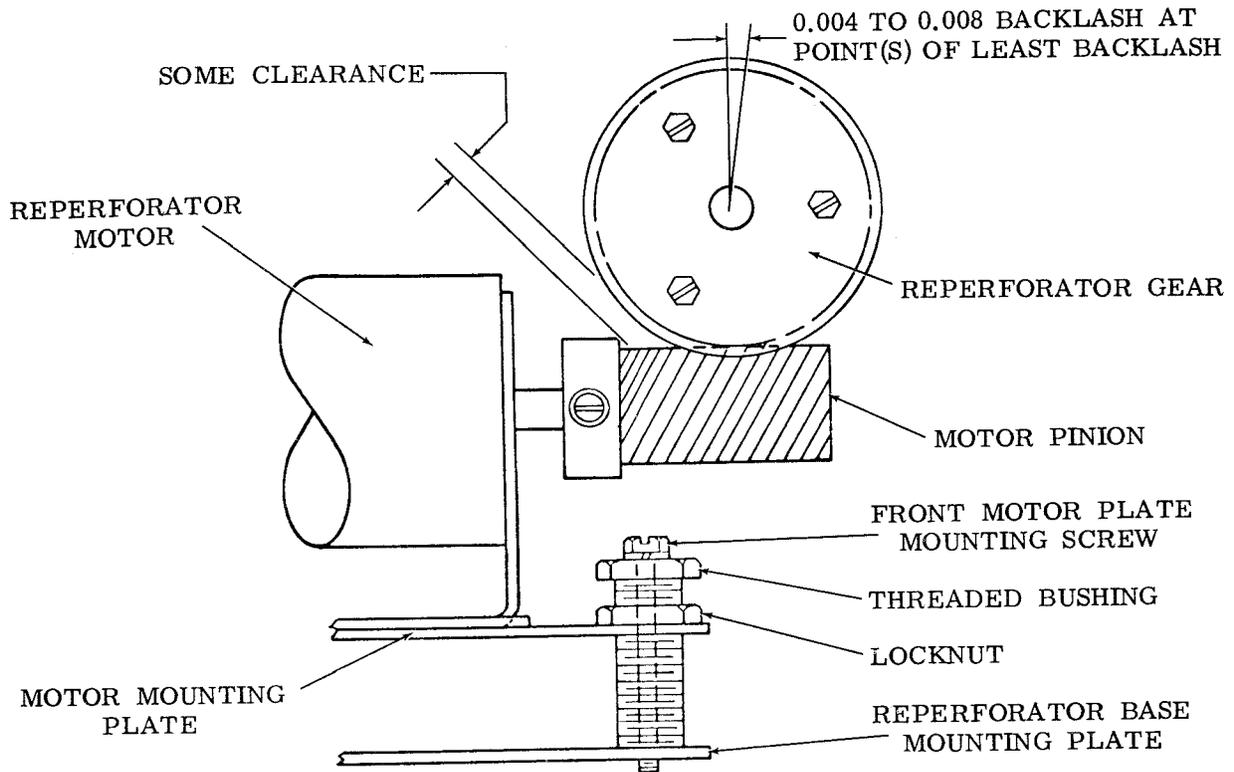

Figure 17 - Reperforator Motor Pinion and Gear Mesh
3.04 To replace the reperforator unit, reverse the removal procedures, except that the motor pinion and reperforator gear engagement must be checked for a barely perceptible backlash, and there must be some clearance between the motor pinion retainer and the reperforator gear. If necessary, proceed as follows (Figure 17).